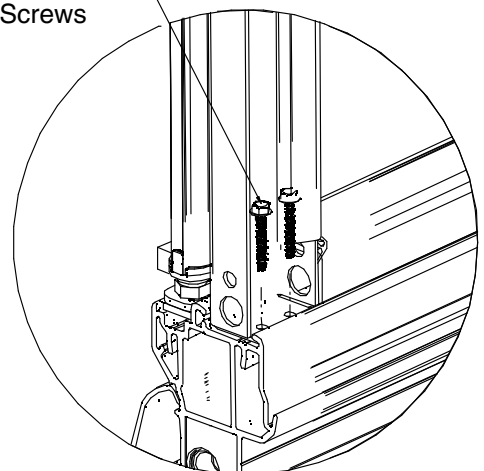

Figure 4-3
B. Fasten 1" **high-low screws** at bottom rear of mullions as shown in Figure 4-3.